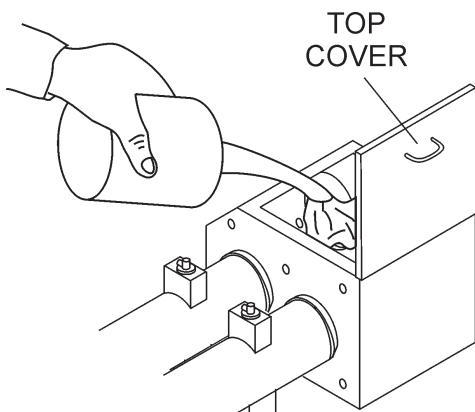

Figure 14. Filling the Lubrication Box
3. Check the oil level in the ***lubrication box***. If low, fill with up to 3 gallons of SAE #30 motor oil (Figure 14). The oil level must be checked daily. The lubrication box should be serviced as described in the maintenance section.